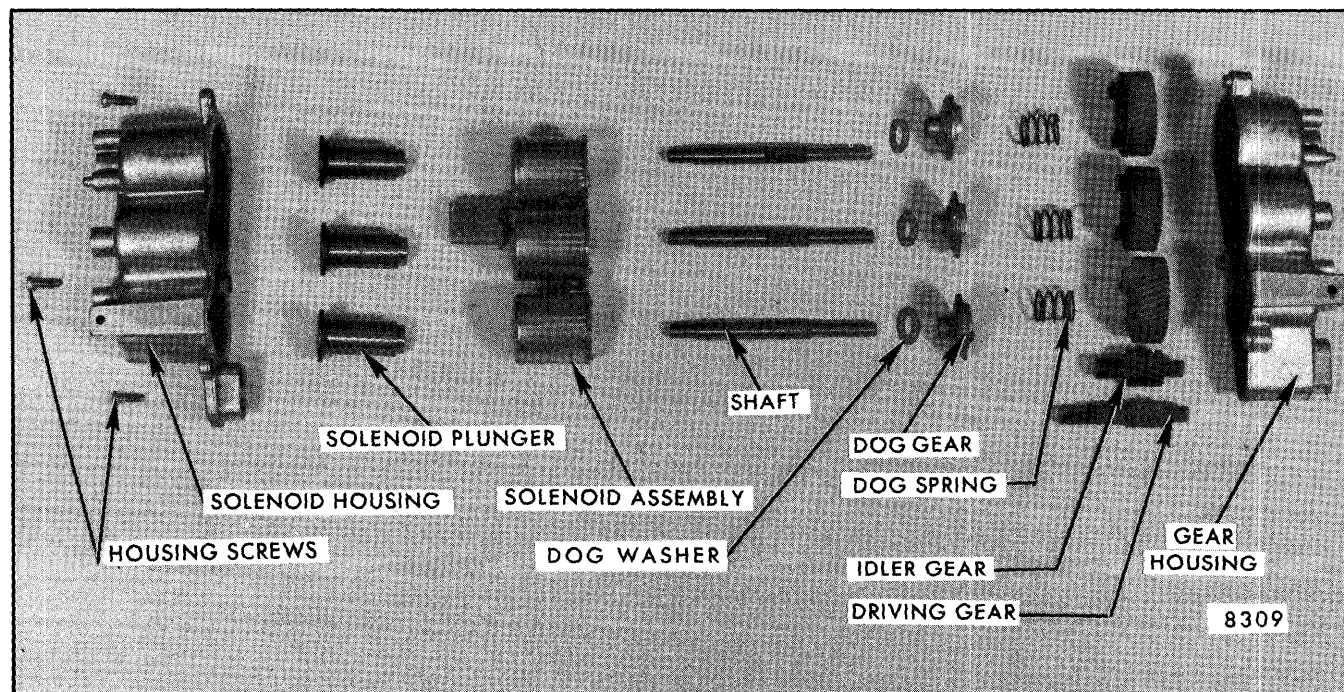

Fig. 9-10-Six-Way Seat Adjuster Transmission Component Parts
2. Remove screws securing rear gear housing to the solenoid housing; then, carefully separate housings and remove component parts of transmission assembly (Fig. 9-10).